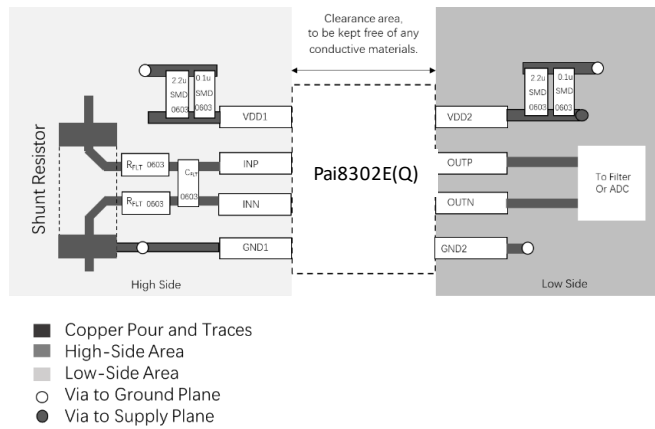

Figure 34. Recommended Layout of the Pai8302E(Q)
Fig34 shows a layout recommendation with the critical placement of the decoupling capacitors (as close as possible to the Pai8302E(Q) supply pins) and placement of the other components required by the device. For best performance, place the shunt resistor close to the INP and INN inputs of the Pai8302E(Q) and keep the layout of both connections symmetrical.